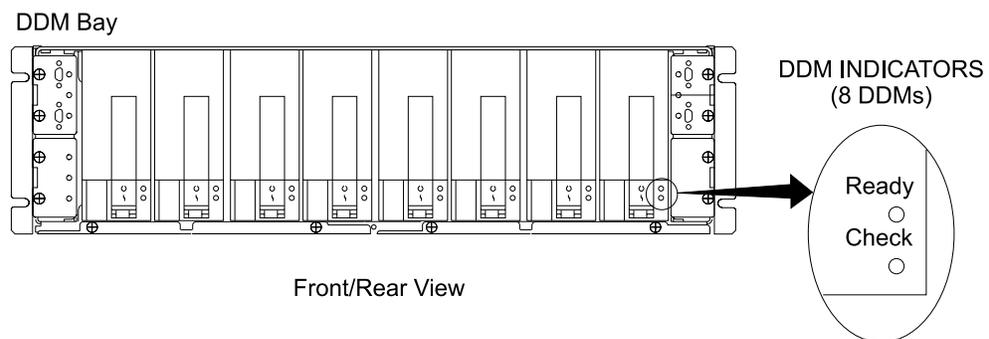

Figure 297. SSA DASD DDM Bay Indicators (S008021)
- ___ 1. Observe the indicators on all front and rear SSA DASD DDM bays in the 2105 Expansion Enclosure: Refer to Figure 297.